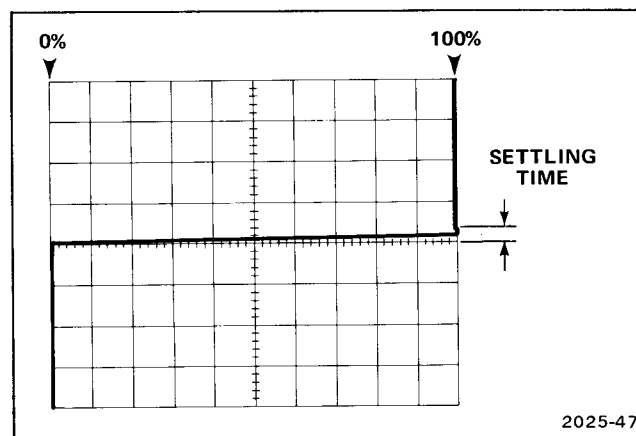

Figure 6-2. Typical crt display for horizontal settling time measurement (settling time includes corner distortion).
- ✓ d. CHECK—That the time required for the leading edge of the square wave to travel from the zero percent level to the 100 percent level (see Fig. 6-2) is 500 nanoseconds (0.4 division) or less, within a trace width (0.025 centimeters).